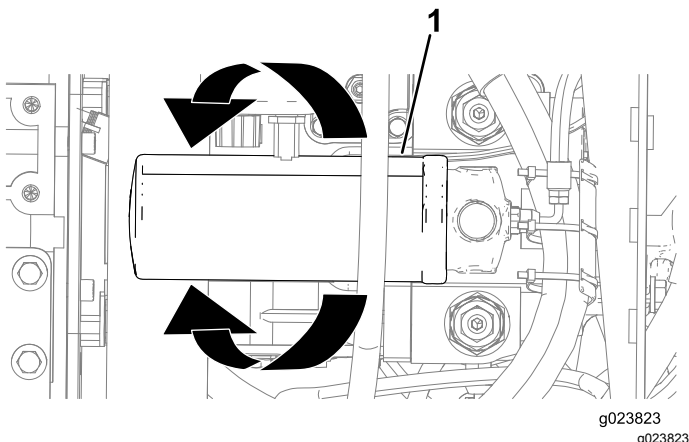

Figure 121
4. Rotate the hydrostatic-charge filter counterclockwise and remove the filter (Figure 121).
6. Align the hydrostatic-charge filter to where it seats, and rotate it clockwise until the seal of the filter contacts the adapter (Figure 121).
3. Align a drain pan or several rags under the hydrostatic-charge filter (Figure 121).